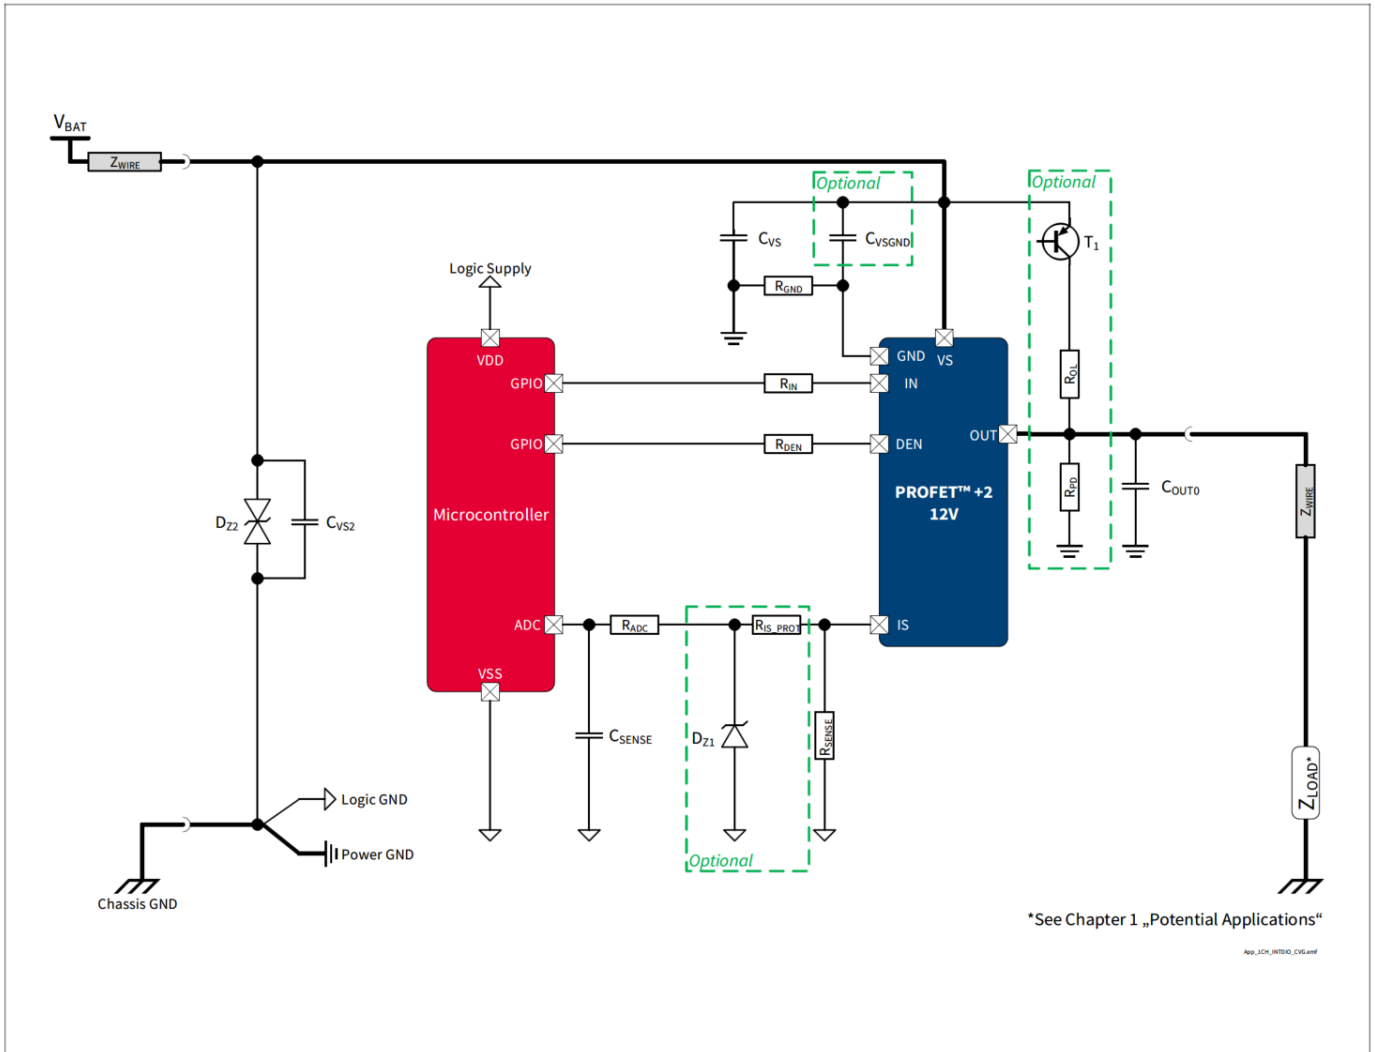

Figure 42 BTS7010-1EPA Application Diagram
1.02, 2019-10-15	<p>P_8.7.2.1, P_8.7.2.7, P_8.7.2.8 updated (added in Note or Test Condition: link to <a href="#">Figure 25</a>) P_7.5.2.4, P_7.5.2.5 updated (added in Note or Test Condition: DEN = “low”; link to <a href="#">Figure 19</a>)</p> <p>P_7.5.2.12 updated (added in Note or Test Condition: see <a href="#">Figure 21</a>)</p> <p>P_8.7.2.6 updated (added in Note or Test Condition: see <a href="#">Figure 26</a>)</p> <p>P_9.7.2.1 updated (added in Note or Test Condition: See <a href="#">Figure 34</a>)</p> <p>P_9.7.2.6 updated (Min./Max.: -45%/+45% → -34.5%/+34.5%)</p> <p>P_9.7.2.9 updated (Min./Max.: -38%/+38% → -25.5%/+25.5%)</p> <p>P_9.7.2.12 updated (Min./Max.: -34%/+34% → -22.5%/+22.5%)</p> <p>P_9.7.2.15 updated (Min./Max.: -22%/+22% → -13.0%/+13.0%)</p> <p>P_9.7.2.17 updated (Min./Max.: -9%/+9% → -8.1%/+8.1%)</p> <p>P_9.7.2.19 updated (Min./Max.: -6%/+6% → -4.6%/+4.6%)</p> <p>P_9.7.2.21 updated (Min./Max.: -5%/+5% → -3.9%/+3.9%)</p> <p>P_7.5.2.11 updated (added in Note or Test Condition: see <a href="#">Figure 19</a>)</p> <p>P_4.2.2.6 updated (Max.: 13.5 mJ → 17 mJ)</p> <p><a href="#">Figure 1</a>, <a href="#">Figure 42</a> updated</p> <p><a href="#">Chapter 1</a> updated (or LED equivalent → or equivalent electronic loads (e.g. LED modules)) P_4.3.0.7 added</p> <p><a href="#">Table 23</a> updated</p> <p><a href="#">Chapter 5.1</a> updated (added: see <a href="#">Chapter 10</a> for the complete application setup overview)</p>